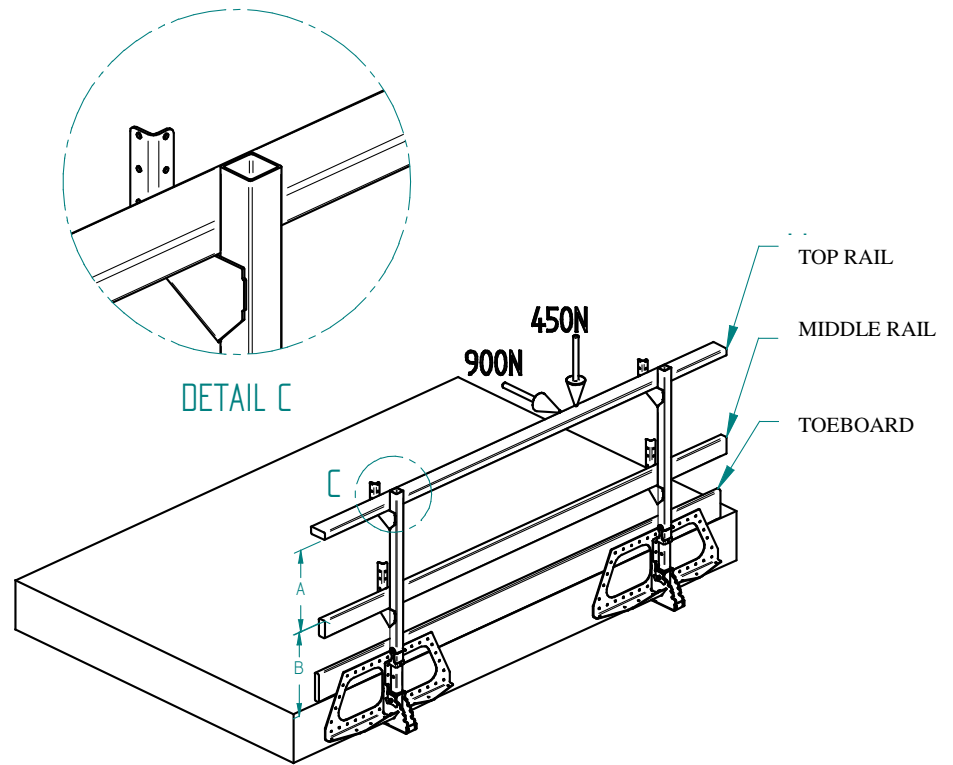

Figure 6
- B. Ensure that the top rail is between 1 and 1.2 meters *(Height A of figure 6)* above footing where workers are to stand.
- C. Attach middle rail which is at least 75 millimeters wide at mid-height (Height B of figure 6).
- a. It can resist a concentrated horizontal force of 900 newtons (200 lbf) applied to any point of the top rail. (See figure 6)
- b. It can resist a concentrated vertical force of 450 newtons (100 lbf) applied to any point of the top rail. (See figure 6)
- c. It includes all essential elements; bottom, middle and top guard rails. (See figure 6)